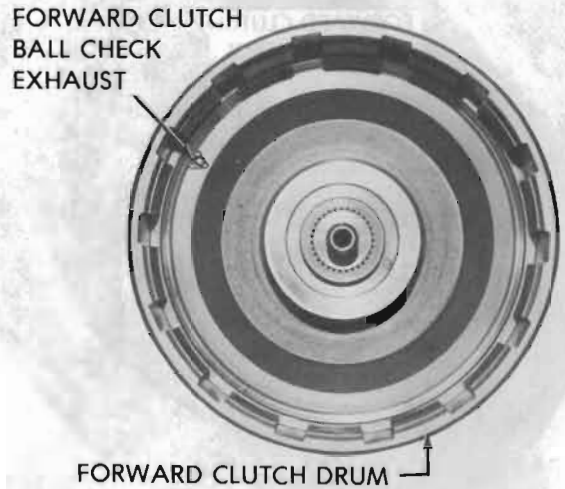

Figure 75-190
9. Make certain forward clutch ball check exhaust is free of dirt, etc. See Figure 75-190.